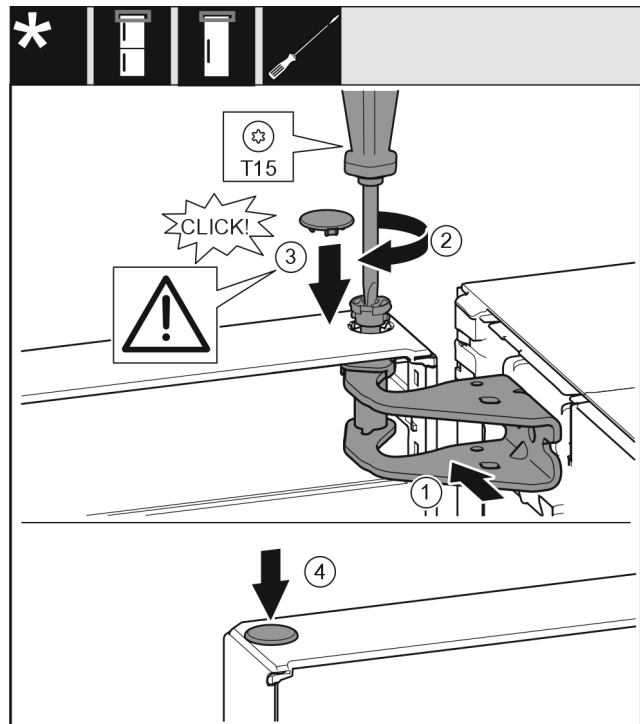

Fig. 18
- ▶ Align the top of the door with opening in the bearing bracket. Fig. 18 (1)
- ▶ Insert the bolt and tighten with a T15 screwdriver. Fig. 18 (2)
- ▶ Fit the protective cover to protect the door: Insert the protective cover and check that it is flush to the door. If not, insert the bolt fully. *Fig. 18 (3)*
- ▶ Insert the plugs. *Fig. 18 (4)*